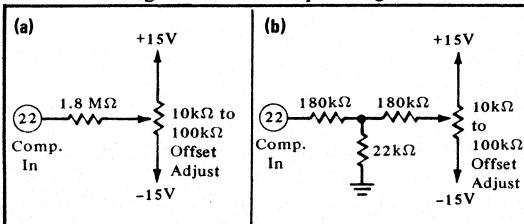

FIGURE 9. Two methods of connecting optional offset adjust with a 0.4% of FSR range of adjustment.
Gain and Offset errors may be trimmed to zero using external gain and offset trim potentiometers connected to the ADC as shown in Figures 9 and 10. Multiturn potentiometers with 100ppm/ $^{\circ}\text{C}$  or better TCR's are recommended for minimum drift over temperature and time. These pots may be any value from 10 k $\Omega$  to 100 k $\Omega$ . All resistors should be 20% carbon or better. Pin 27 (Gain Adjust) and Pin 22 (Offset Adjust) may be left open if no external adjustment is required.
**OFFSET** - Connect the OFFSET potentiometer as shown in Figure 9. Sweep the input through the end point transition voltage that should cause an output transition to all bits off ( $E_{IN}^{OFF}$ ).